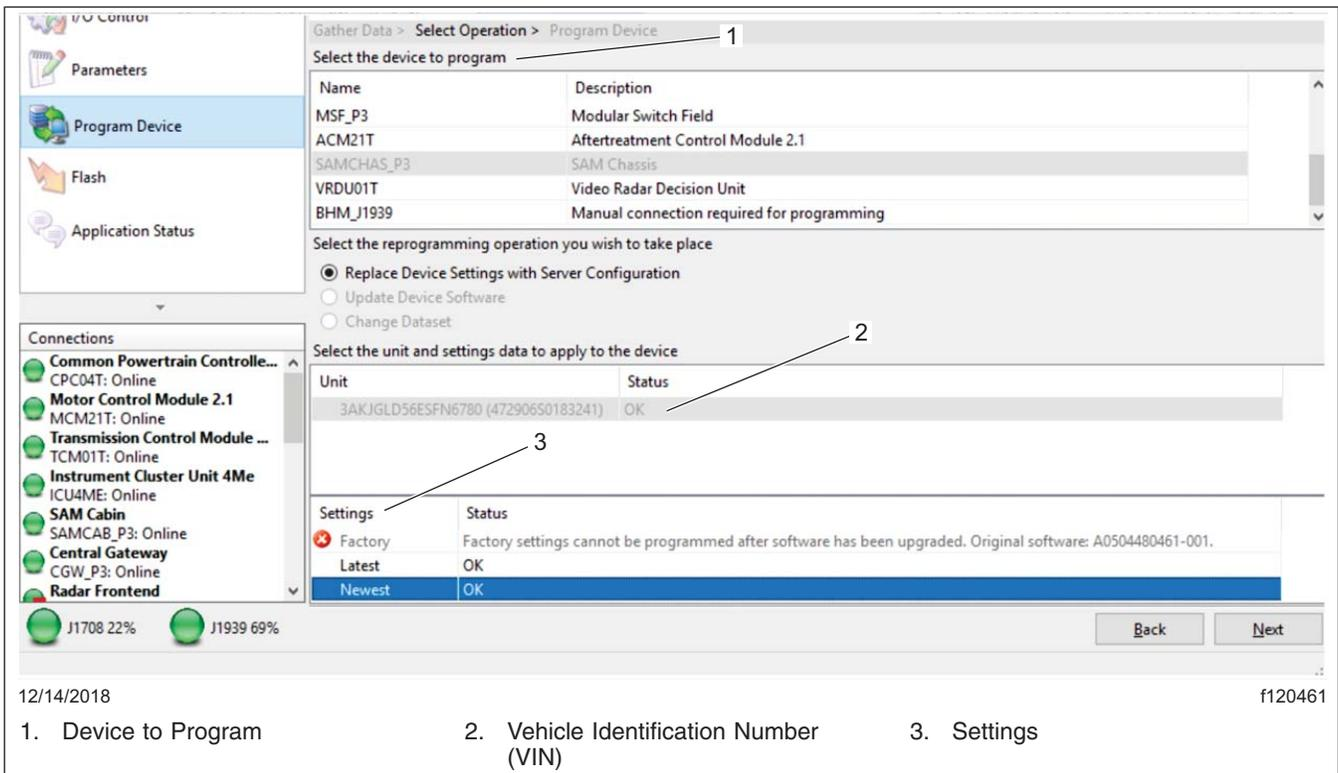

Fig. 9, Selecting "Latest" or "Newest" Software
11. Select the CPC controller to program, select the VIN, and select "Latest." Click "Next." See Fig. 9.